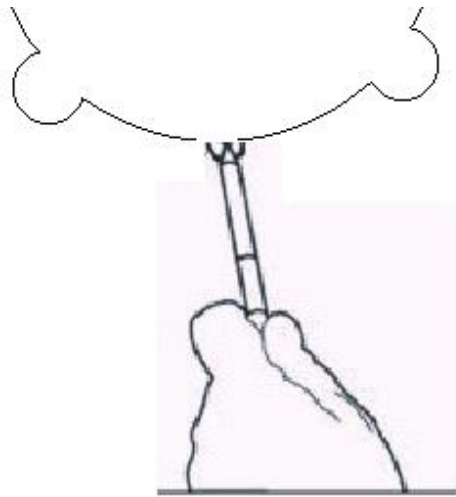

Figure 17
7.2) Use the template supplied to first mark the center point and then mark out the cutout (Figure 17).